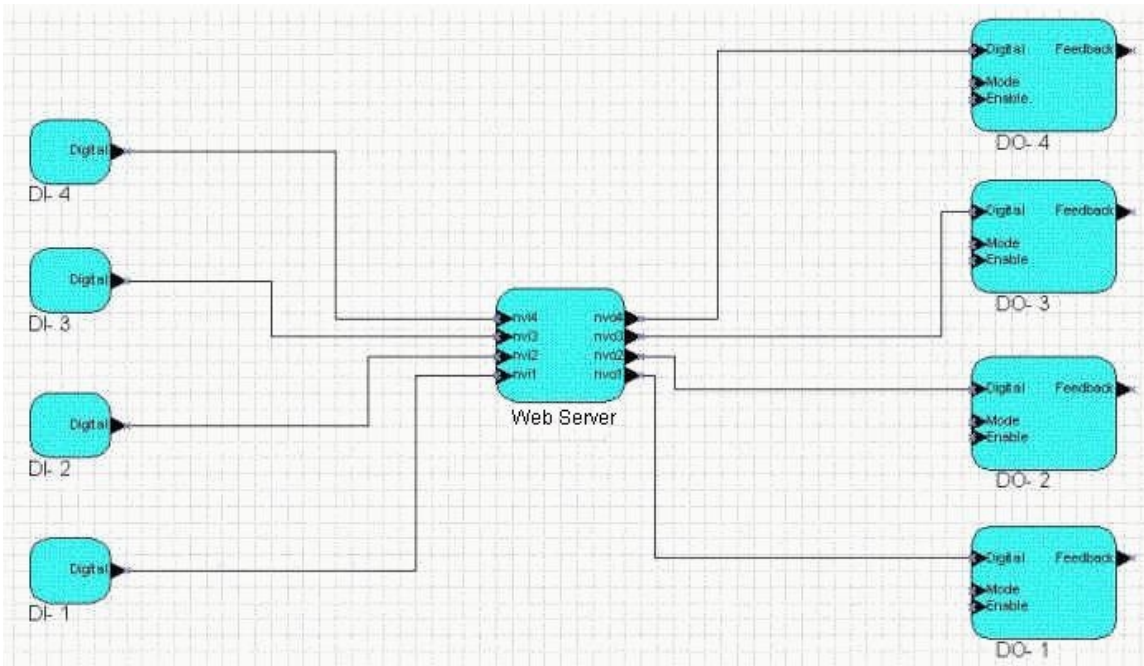

Figure 9-9 – Web Server Connected to DI and DO Devices
18. Connect the digital input functional blocks to the Web Server inputs, and the digital output functional blocks to the Web Server outputs. Figure 9-9 shows a sample of a LonMaker drawing created using these instructions.